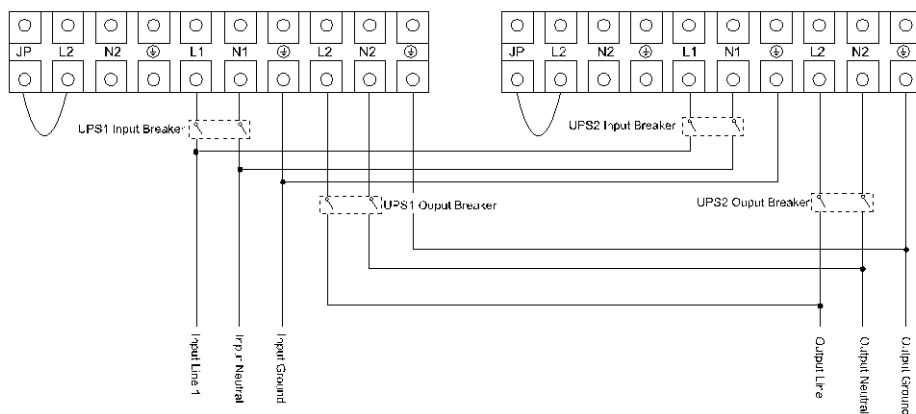
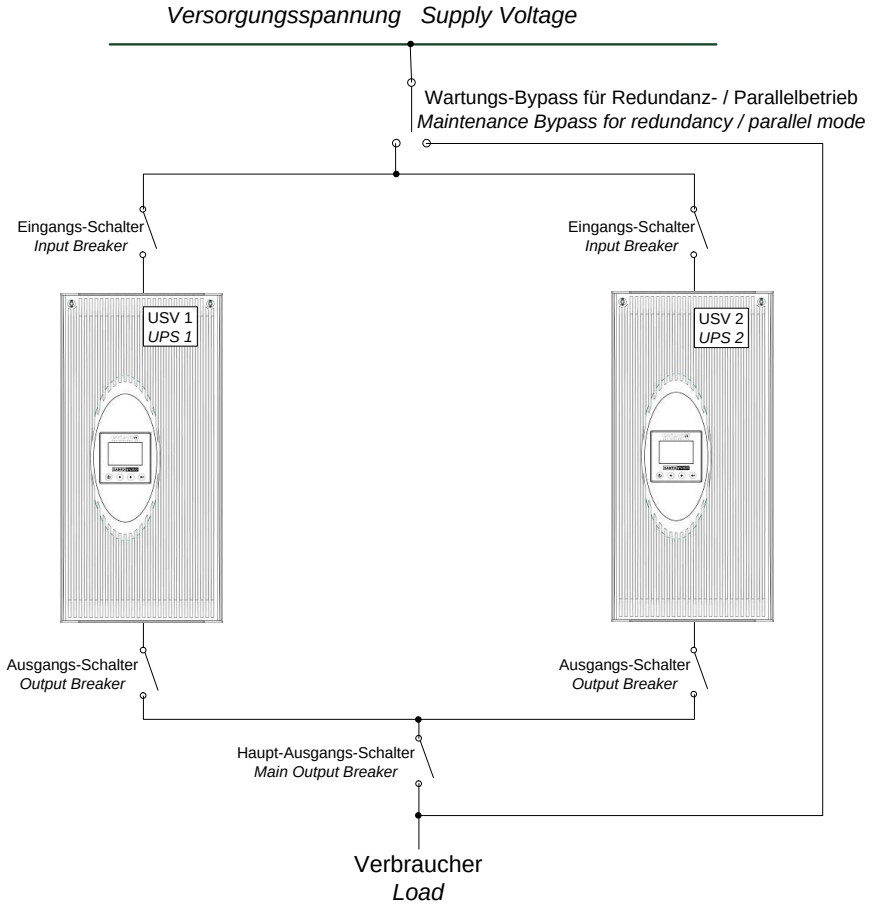

Figure 29: Connection plan 1 parallel switching
Figure 30: Connection plan 2 parallel switching
2. Connect the inputs and outputs of the UPS system according to Figure 29 and Figure 30 with the individual power switches (2-pole in each case for L and N, power switch is not included in the scope of delivery). Make sure that all power switches are opened.
3. In addition, ONLINE recommends installing an additional maintenance switch (not included in the scope of delivery) for the network (see Figure 30).
4. Insert the jumper between L2 and JP on each UPS system (see Figure 29).